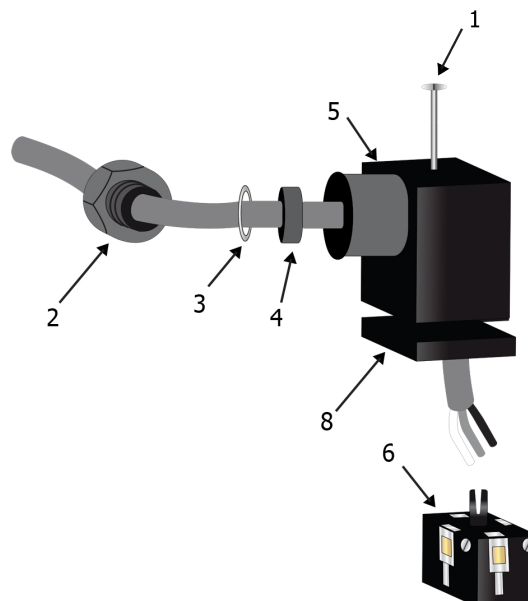

Figure 19 Pressure Transmitter Connector
- b. When the connector is unplugged from the transmitter, remove the central screw (1) (*Figure 19*) completely.
- c. Remove the gasket (8) (*Figure 19*) from the connector.
- e. Ensure that the outer diameter of the cable selected matches the outer housing’s cable gland. To ensure that full ingress protection is achieved, the sensor cable used must have a minimum diameter of 4.6mm (0.18”). Slide the cable through the cable gland nut (2), washer (3), gland seal (4) and outer housing (5) (*Figure 19*).
- f. Apply crimps/wire ferrules to the flying leads of the cable. Connect these leads to the screw terminals on the terminal block (6) in accordance with the following pin-assignment drawing. Pin designations are marked adjacent to each pin.
- h. Tighten the cable gland (2) (*Figure 19*) around the cable. Ensure that the sealing is not damaged and that the cable gland and seals are assembled correctly in order to ensure ingress protection.
- i. Slide the terminal block (6) onto the connection pins on the transmitter. **NOTE: There is only one orientation by which the terminal block can be plugged onto the transmitter.**